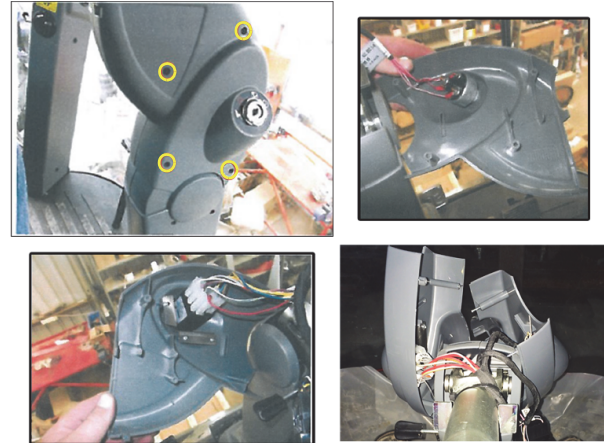

Figure 3b: Accessing the steering column
- c. Remove the four screws on the ignition key side of the steering column cover and, *taking particular care of the released center switches panel*, separate the two halves of the column cover (Figure 3b).